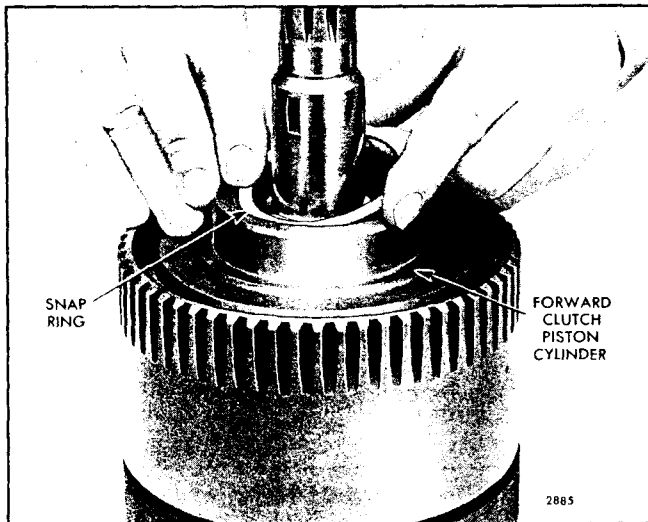

Fig. 69 - Installing Bearing Retaining Snap Ring in Forward Clutch Piston Cylinder
- i. Install the snap ring in the groove of the forward clutch piston cylinder next to the bearing outer race as shown in Fig. 69.